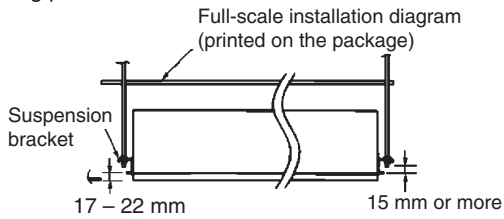
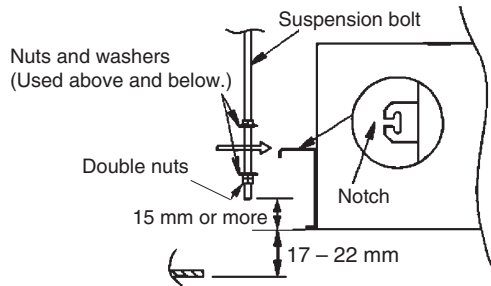

Fig. 3-6
Fig. 3-7
- (1) The measurements of the ceiling hole and suspension bolt positions should be as shown in Fig. 3-1. The length of the suspension bolts should extend a minimum of 15 mm beyond the bottom of the unit suspension bracket. Refer to Fig. 3-6.
- (1) When suspending the unit, attach gauges A and B (with packaging pad) to the indoor unit suspension brackets using the supplied M5 screws (2 for each bracket) to create the ceiling opening dimensions.
- (2) Attach the special washers (supplied) and nuts (field supply) to the suspension bolts (4 locations).
- The length of the suspension bolts should be such that there is clearance of at least 15 mm below the bottom of the bracket, as shown in Fig. 3-7. If the suspension bolts are too long, they will contact the ceiling panel and louver motor cover, making installation impossible.
- (3) Thread the 3 hexagonal nuts and 2 washers (field supply) onto each of the the 4 suspension bolts as shown in Fig. 3-7. Use 1 nut and 1 washer for the upper side, and 2 nuts and 1 washer for the lower side, so that the unit will not fall off the suspension lugs.
- (4) The indoor unit should be suspended from the suspension bolts (Fig. 3-7) so that the distance between the bottom of the suspension lug and the bottom surface of the ceiling is 17 to 22 mm. (Fig. 3-6) Clearance between the indoor unit and the bottom surface of the ceiling is adjustable after the ceiling panel is attached to the unit.